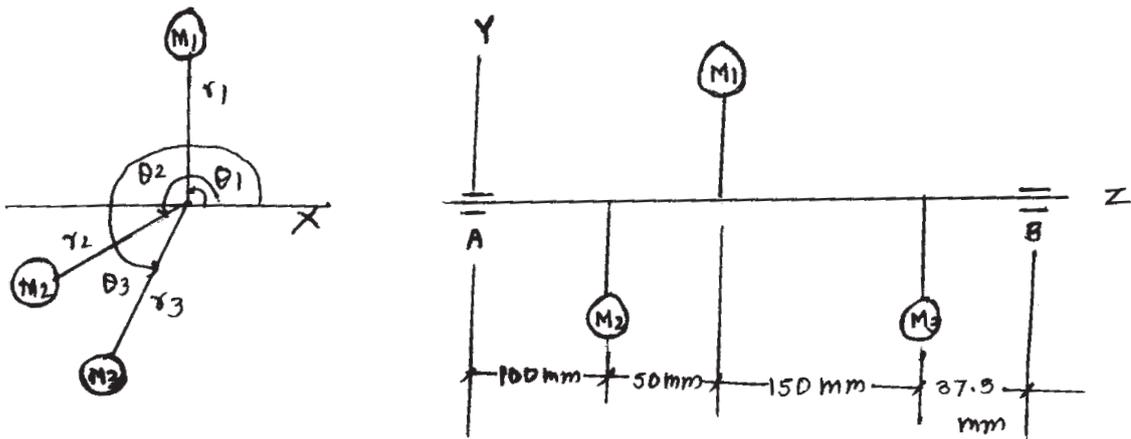

Fig 1. Q NO. 1 (CO)
- Q1) a) A shaft rotating with three masses  $M_1$ ,  $M_2$  and  $M_3$  as shown in fig.1. It is proposed to attach masses in plane  $M_2$  and  $M_3$  at a radius of 50 mm, SD as to completely balance the system. Find out the masses to be attached and their angular location with respect to the X axis as shown in fig.  $M_1 = 9\text{kg}$ ,  $M_2 = 10.5\text{kg}$ ,  $M_3 = 4\text{kg}$ ,  $\theta_1 = 90^\circ$ ,  $\theta_2 = 210^\circ$ ,  $\theta_3 = 255^\circ$ ,  $r_1 = 125\text{ mm}$ ,  $r_2 = 75\text{ mm}$ ,  $r_3 = 150\text{ mm}$ . [10]